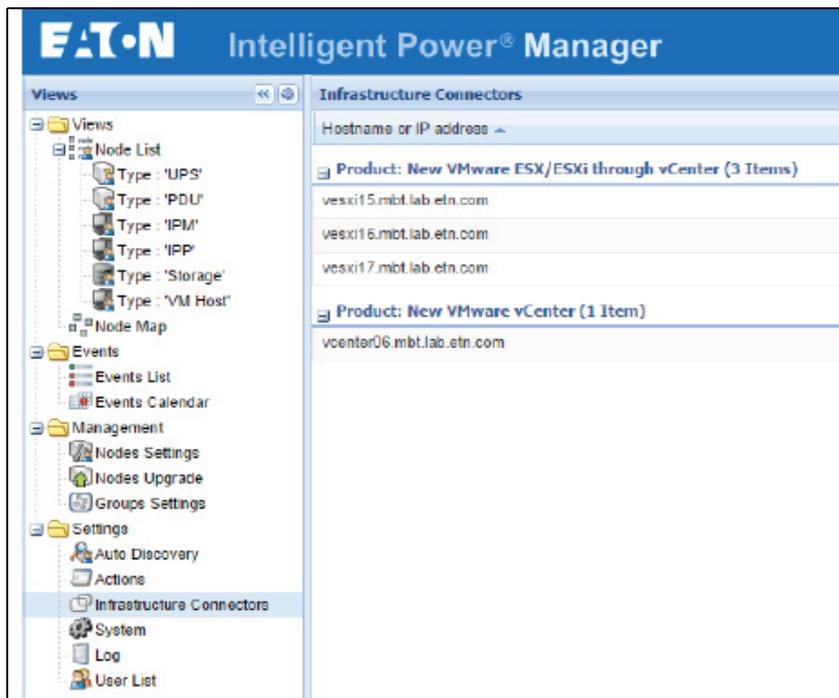

Figure 165. Infrastructure Connectors
5. Check that the connection is listed in the Infrastructure Connectors panel (see Figure 165).